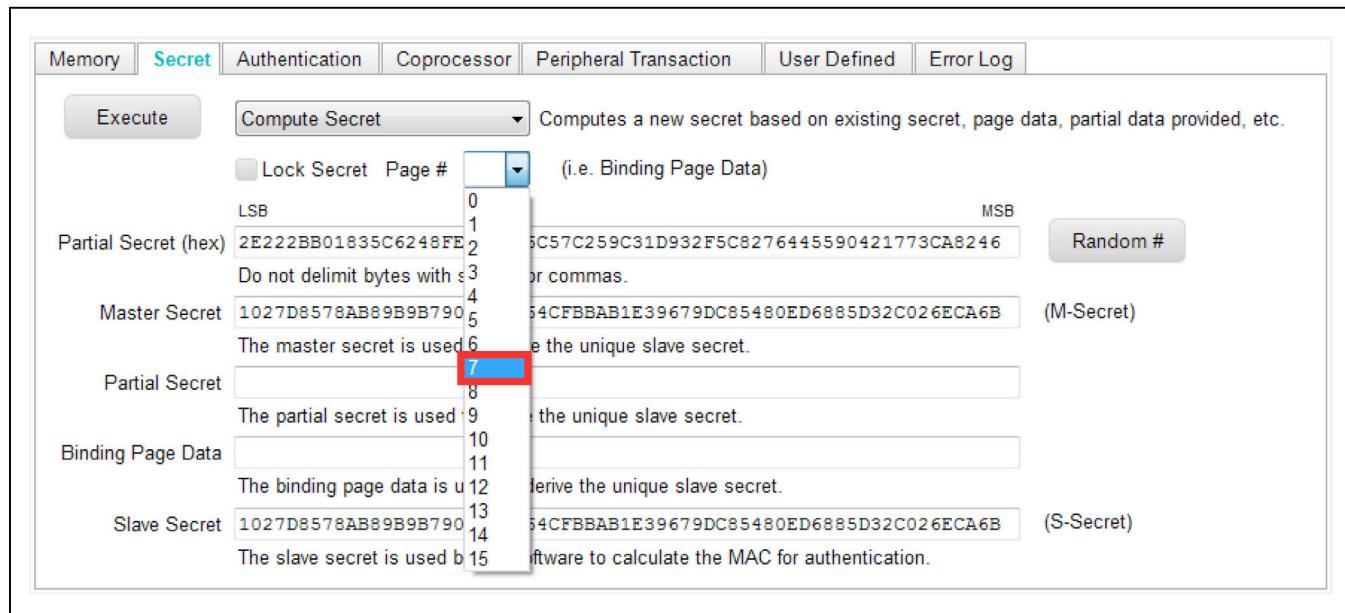

Figure 15. Binding Page Data
- 11) Select page **7** from the **Page #** drop-down box (Figure 15). **Note:** Any page number is usable for binding data. However, the 'Page #' chosen needs to be the same used during authentication.